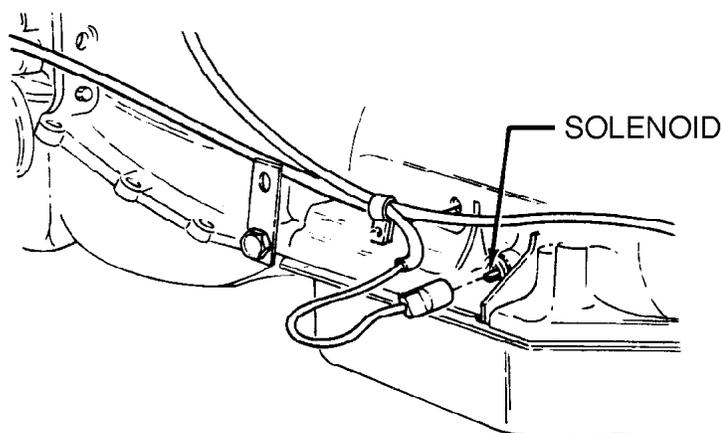

Figure 6-8. Transmission Detent Solenoid Resistance Test.
E. TRANSMISSION DETENT SOLENOID RESISTANCE TEST (Figure 6-8)